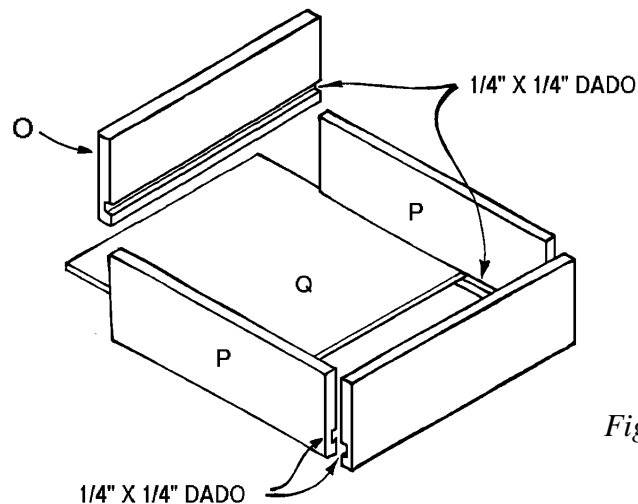

Figure 5
1. There are two identical drawers in this cabinet. Both are constructed as shown in the assembly diagram in *Figure 5*.
2. Cut the following parts for the drawer from 1 x 4 pine: two drawer front/back pieces (O), each 12 inches long, and two drawer sides (P), each 20 inches long.
4. Cut one 11" x 20" drawer bottom (Q) from 1/4"-thick plywood. Assemble the drawer as shown in *Figure 5*. Use glue and finishing nails, pacing two nails on each end of the overlapping boards. The drawer front is added later.